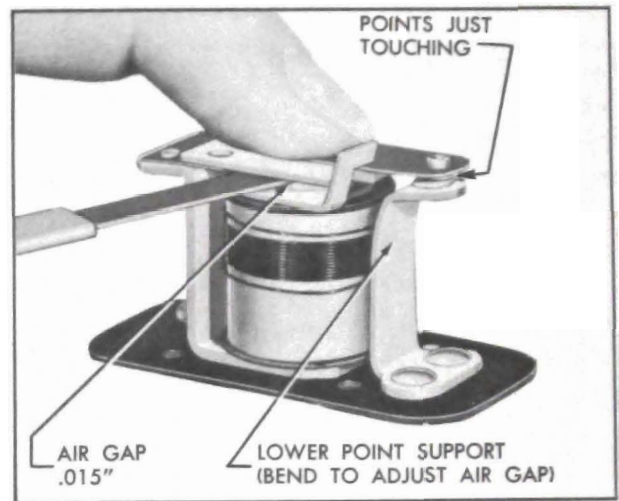

Figure 10-49—Relay Air Gap Adjustment
2. Push relay armature down until contact points just touch, then check air gap between armature and end of core, using .015" feeler gauge. Air gap should be not less than .015". Adjust gap to .015", if necessary, by bending the lower point support. See figure 10-49.